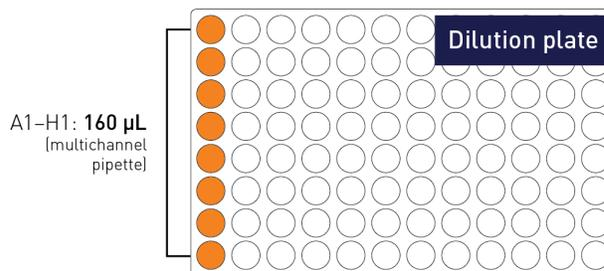

Figure 1 Dispense CHO HCP ProteinSEQ™ Diluent (shown in plate format)
1. Dispense 160 µL CHO HCP ProteinSEQ™ Diluent to each of the eight tubes or plate wells (see Figure 1).